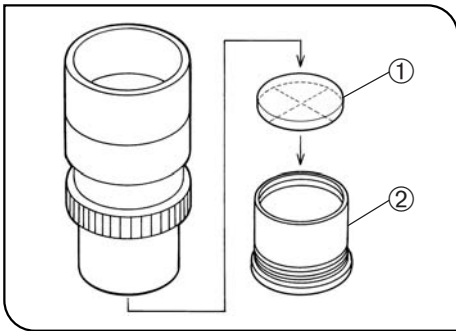

Fig. 25
**4 Using Eyepiece Micrometer Disks (Fig. 25)**
Following Fig. 25, turn the built-in micrometer mounting frame ② counter-clockwise to remove it from the eyepiece and place a micrometer disk ① into the mounting frame. The engraving on the micrometer disk should face downward into the micrometer mounting frame.